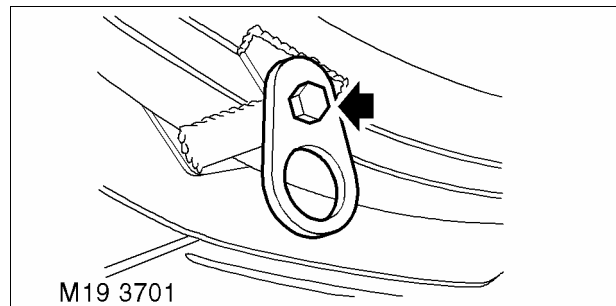

Fig. 5
- 9 Remove rear towing eyes. See Fig. 5.